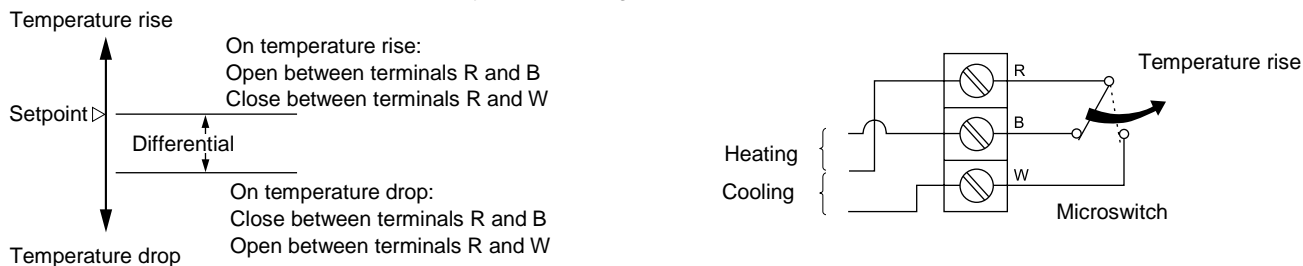

Figure 13. Microswitch operation
1.7 °C (differential) down from the setpoint, the microswitch operates (contact closes between terminals R and B). Contact between terminals R and W operates oppositely. Refer to Fig. 13.